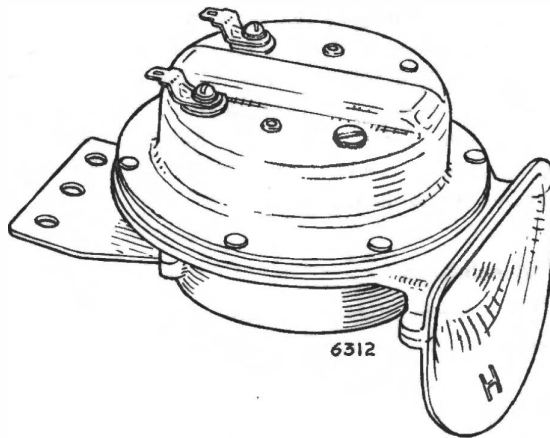

Fig. 33. The Clear Hooter horn
**Clear Hooter Horns (Fig. 33):** The tonal quality of horns and their correct current consumption is accurately set before each unit leaves the manufacturers, therefore, the need for further adjustment after the horns have been fitted to the vehicle